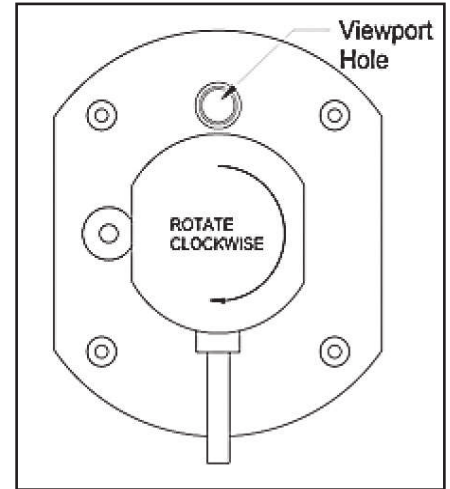

Figure 11 (Installed)
8. Press the ballast against the mounting base. Rotate the ballast assembly clockwise until it stops and is locked in place. (See Figure 11)